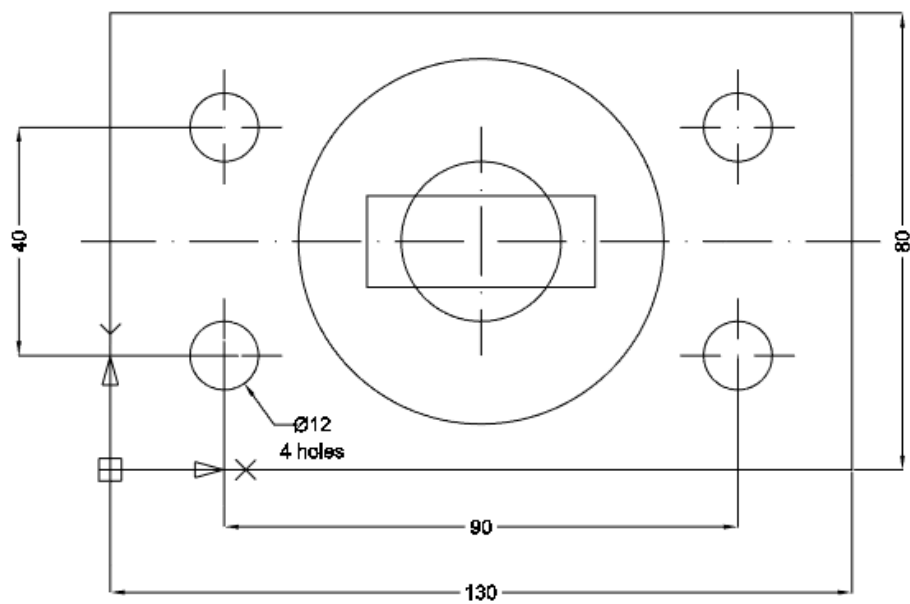

Fig. 7. Draw a circle
1.8. Draw a circle with a radius of **14** (fig. 7):